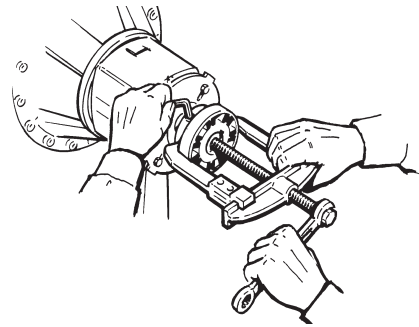

Fig. 8 Remember to loosen the locking screw before pulling off the coupling half.
3. Loosen the coupling half locking screw before pulling off the coupling half, see Fig 8. Remove the key.
3. Loosen the coupling half locking screw before pulling off the coupling half, see Fig. 8. Remove the key.